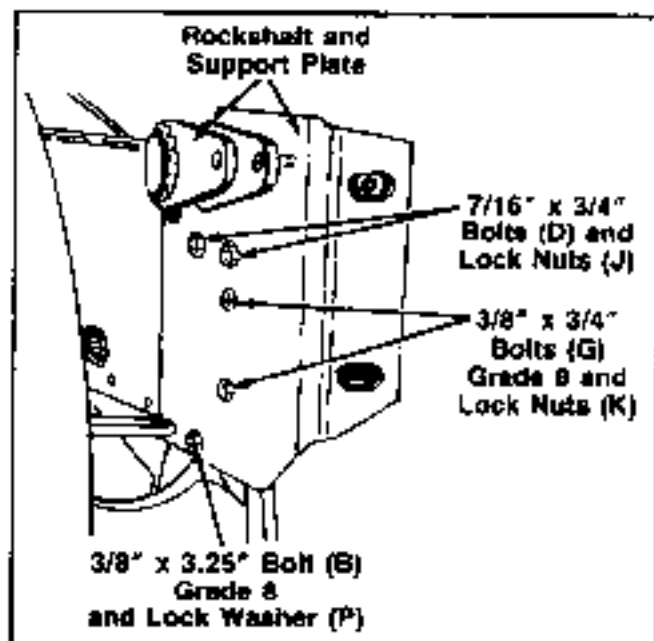

FIGURE 19.—Left Hand Side
- 29 Install the rockshaft and support plates to rear chassis by first removing one bolt (each side of chassis to transaxle horn). Assemble with hardware provided as shown in figure 19 and 20. Torque 7/16-inch bolts 53-60 lbf. ft., torque 3/8-inch bolts 35-40 lbf. ft.